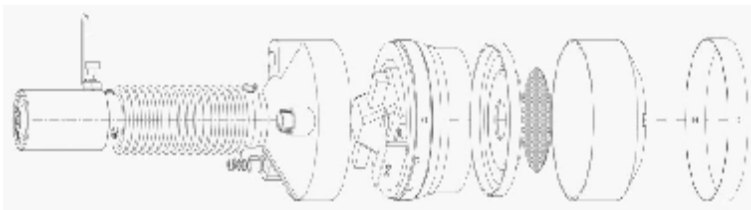

Figure: 3
2. Replace this unit with the new motor unit. Figure: 3 shows exploded drawing and arrangement of the individual components.